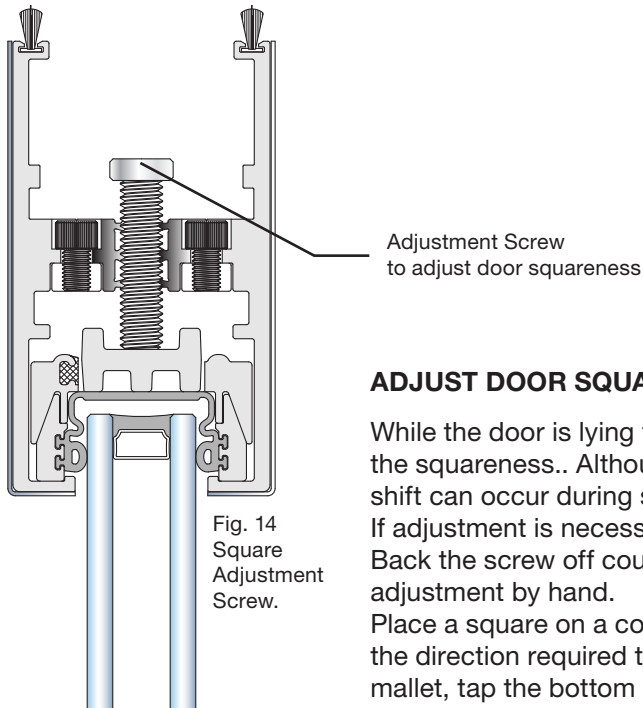

Fig. 14
5. Check the door for squareness. Adjust if necessary. Figure 14.
7. Use (2) people to hang the door.